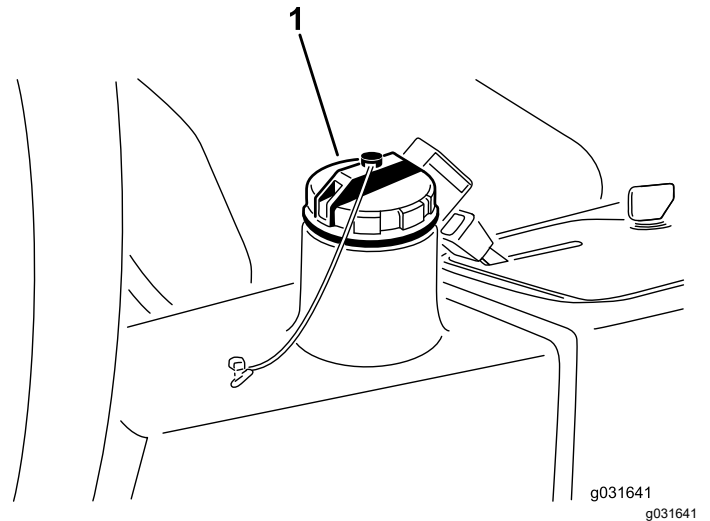

Figure 65
4. Fill the reservoir (Figure 65) with approximately 13.2 L (3.5 US gallons) of hydraulic fluid; refer to Hydraulic Fluid Specifications (page 52) and Checking the Hydraulic Fluid Level (page 52).